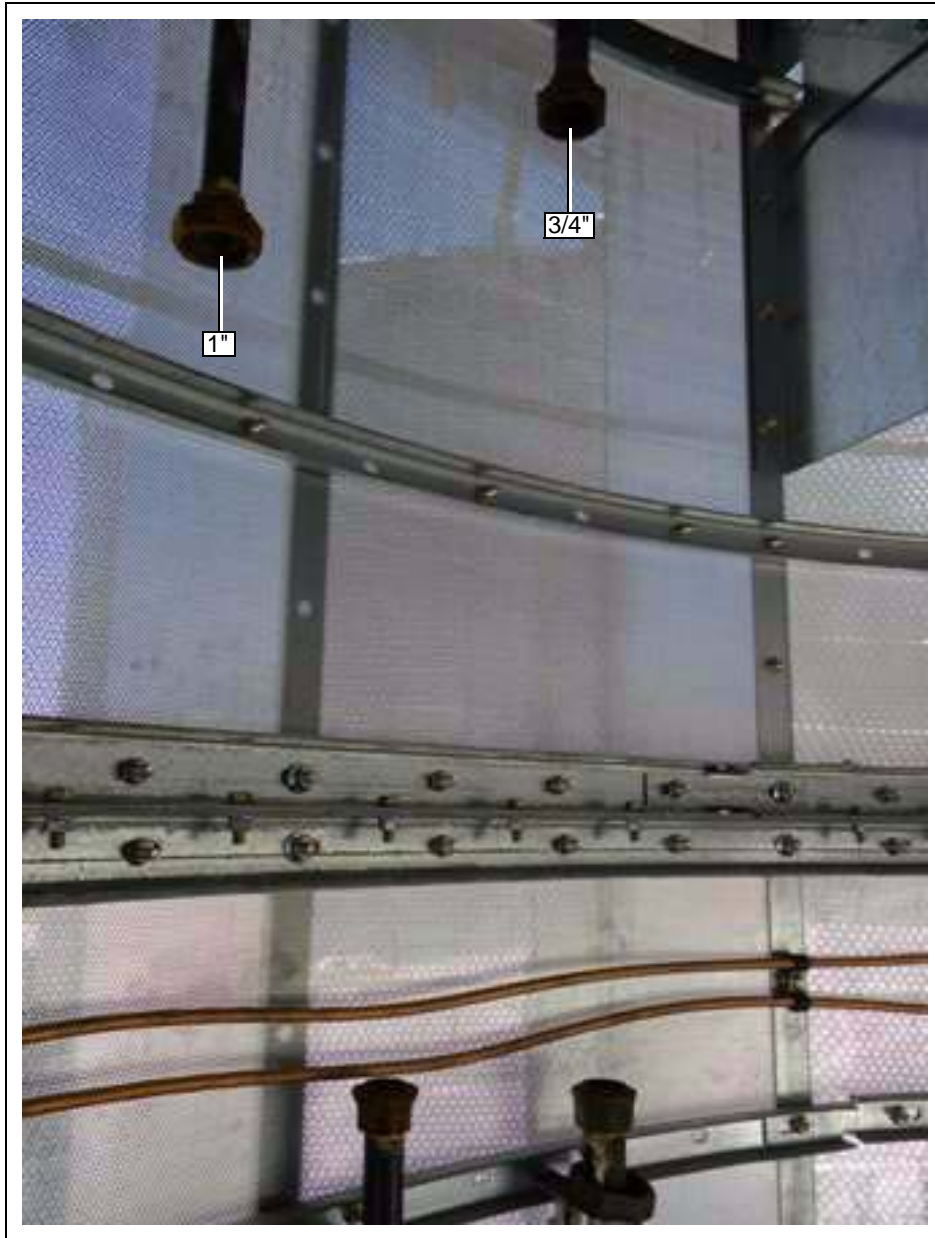

Figure 11C
1. The largest connecting hose connects inside the dryer for the return to blower. (See Figure 11C.)